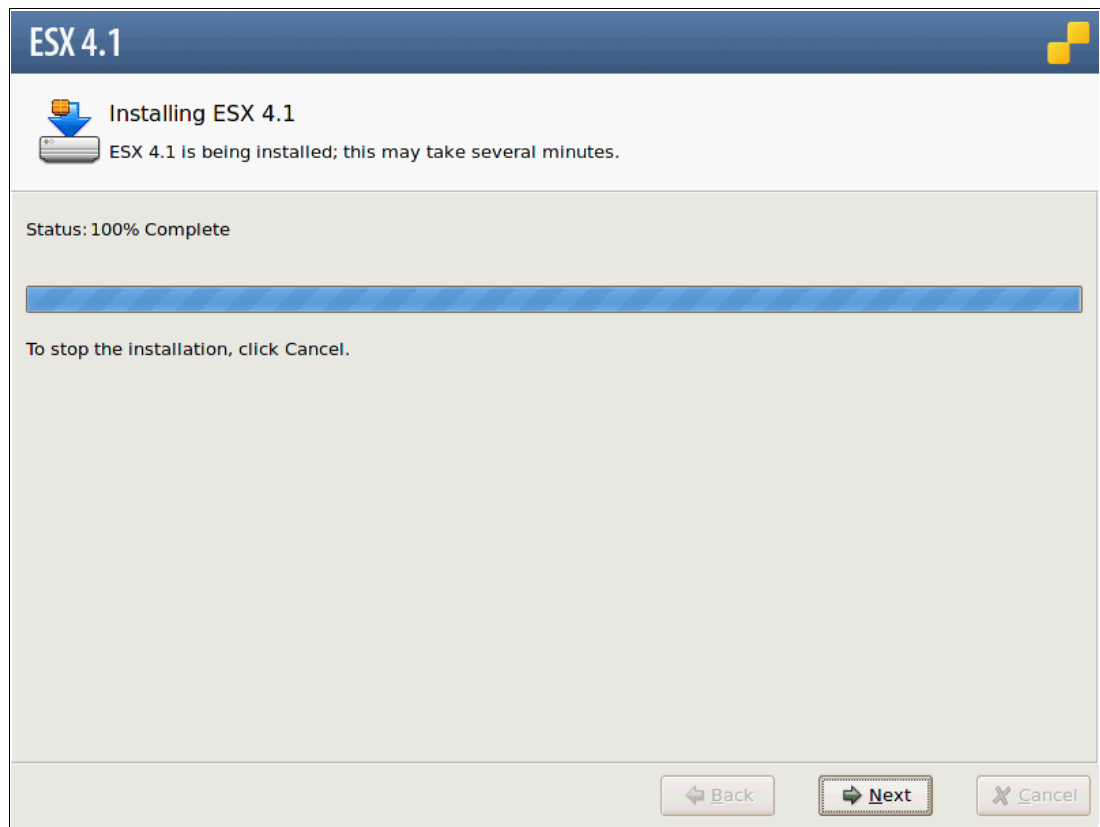

Figure 22-32 ESX Installing Completed
20. After the installation is complete, the window shown in Figure 22-32 displays. Click **Next**.